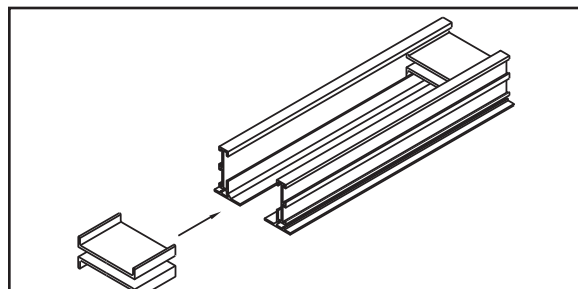

Figure 18. Replacement of Diffuser Spreader
- Slide both top and bottom Spacers back into the FlowBar frame as shown in Figure 18, beyond the cut mark to clear the saw blade.